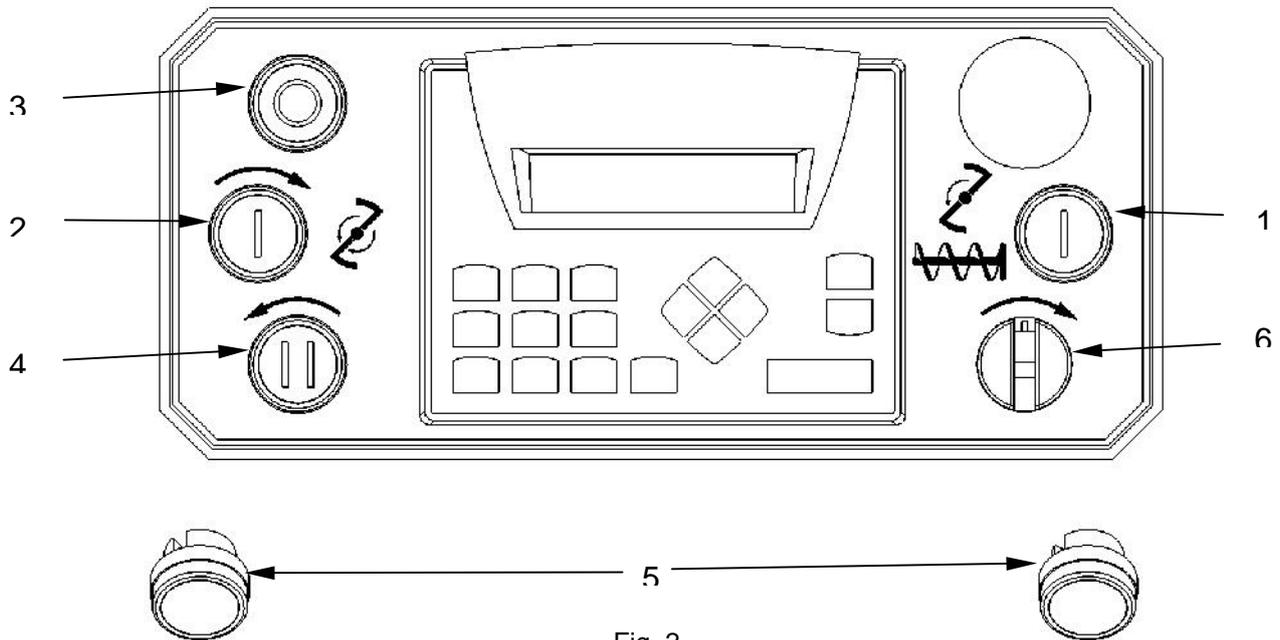

Fig. 2
Be sure that there are no loose objects inside the tank. Verify the correct assembly of paddles before any operation. Check the fixing pin (part V, page 13) and fixing handle (part I, page 11). Plug in the machine to the socket, and switch ON the main power switch (part B, page 14) situated in the backside of the machine. Push the button 2 (fig.2) and paddles should turn clockwise (situated in front of the mincing head nut (part E, page 11)). Push the button 4 (fig.2) and paddles should rotate counter-clockwise. If paddles rotate in the wrong direction, swap the phases on the plug and check again.
Push the green button 1 (fig.2) to check the correct direction of the feed screw, which should be counterclockwise (situated in front of the mincing head nut (part E, page 11)). If the feed screw rotates in the opposite direction, swap the phases of the plug and check again.
MINCE: Slide open the gate (part F, page 11) which separates the feed screw from the paddles and push the start button 1 (fig.2) to mince all the meat. In case the feed screw (part S, page 13) is blocked, stop the machine pushing the button 3 (fig.2), and activate the inverter selector 6 (fig.2) to turn the worm in the reverse sense of rotation in order to unblock it.
1.- **MANUAL MODE:** Use the push buttons in the control panel. Press the button 4 (fig.2) for the mixing direction (counterclockwise) or the button 2 (fig.2) for the kneading direction (clockwise). We recommend to press the stop button 3 (fig.2) before changing direction of paddles to ensure a gentle shift.
Open the lid (part D, page 11), keep the sliding gate (part F, page 11) closed. Release the tank by pulling the handle (part H, page 11) and at the same time tilt the tank 90° by using the tilting lever (part A, page 11). Place a meat lug in front of the tank and press the two buttons 5 (fig.2) with both hands to empty the product by moving the paddles counterclockwise. ENTRAPMENT HAZARD. Do not put your hands into the tank when the paddles are turning. The machine must be operated only by one person to ensure both hands are pressing the two buttons 5 (fig.2, page 3).
Keep the tank in vertical position. Slide open the gate (part F, page 11) and push the button 1 (fig.2) to re-mince the product through the mincing head. Check the mincing head nut (part E, page 11) is properly tightened.
- D- There is a micro switch on the part W (page 13) which does not allow to turn on the mixing paddles if the tank (part G, page 11) is not in upright position, unless you press at the same time the two buttons 5 (fig.2, page 3) with both hands to avoid entrapment.
Plug in the machine to the socket, and switch ON the main power switch (part B, page 14) situated in the backside of the machine. Then, "READY FOR MANUAL CYCLE" will appear on the programmer display. In this mode we can work directly with the push buttons 2 & 4 (fig.2, page 3) on the control panel. How to work in this mode is explained in the section "INSTRUCTIONS FOR USE" of this manual. The mincing process is always operated manually using the push button 1 (fig.2, page 3) on the control panel.
Plug in the machine to the socket, and switch ON the main power switch (part B, page 14) situated in the backside of the machine. Then , "READY FOR MANUAL CYCLE" will appear on the programmer display. In this mode we can work directly with the push buttons 2 & 4 (fig.2, page 3) on the control panel